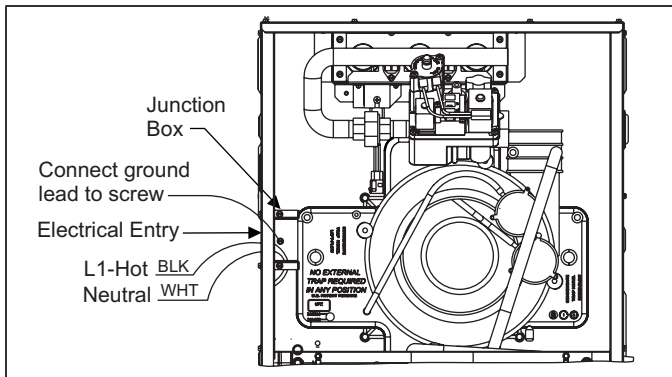

FIGURE 17: Electrical Wiring
2. Remove the wiring box cover screws. Route all power wiring through a conduit connector or other proper bushing that is field installed into the unit opening and the junction box. In the junction box there is a black wire, a white wire and a green ground screw. Connect the power supply as shown on the unit's wiring label located on the inside of the blower compartment door, or the wiring schematic in this section. Connect the black wire to L1 (hot) from the power supply. Connect the white wire to neutral. Connect the ground wire (installer-supplied) to the green (equipment ground) screw. An alternate wiring method is to use a field-provided 2" (5.1 cm) x 4" (10.2 cm) box and cover on the outside of the furnace. Route the furnace leads into the box using a protective bushing where the wires pass through the furnace panel. After making the wiring connections, replace the wiring box cover and screws. Refer to Figure 17.
3. The furnace's control system requires correct polarity of the power supply and a proper ground connection. Refer to Figure 17.